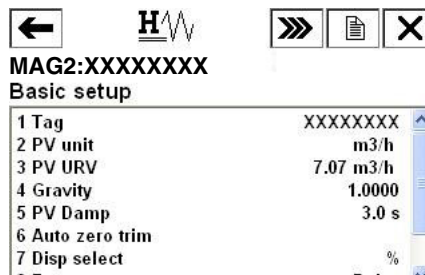

Figure 65. Basic Setup Menu
2. Select “3. Basic setup” from the menu. The basic setup menu is displayed. (Figure 65)